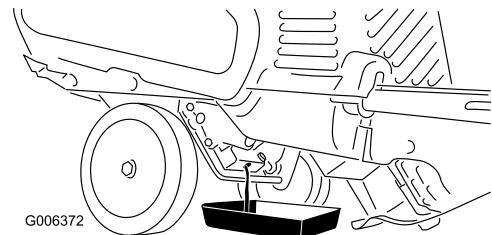

Figure 30
3. Place an oil drain pan under the oil drain plug, remove the oil drain plug, and tip the machine backward and drain the used oil in the oil drain pan (Figure 30).